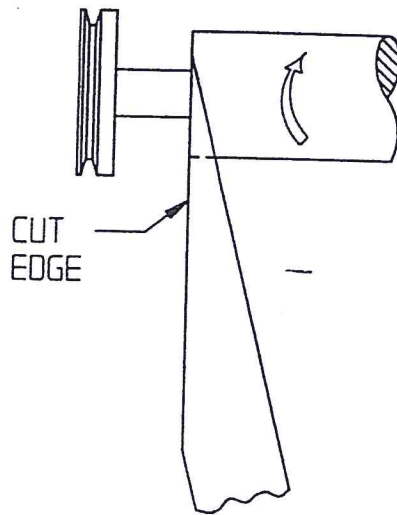
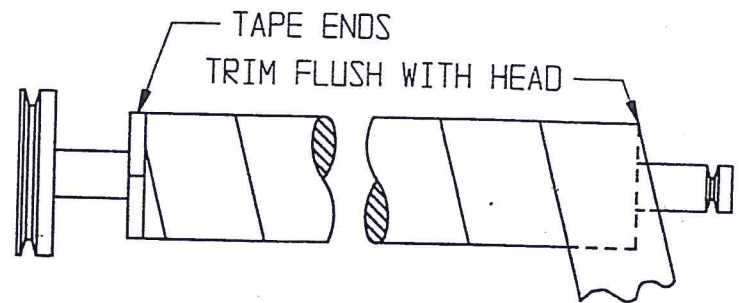

Fig. A-3
Fig. A-4
6. Apply the sandpaper to the drum in a spiral. Start the cut edge at the drive end of the drum and turn the drum one revolution (see fig. A-3). Then align with the edge of the sandpaper, and continue to turn the drum (see fig. A-4). Make sure the sandpaper is wrapped tight.